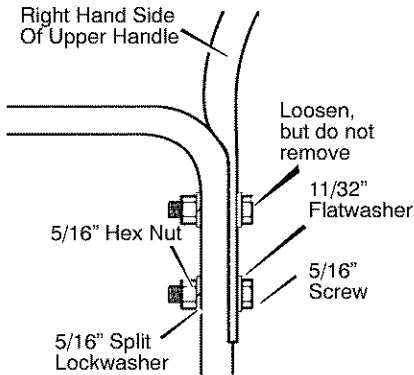
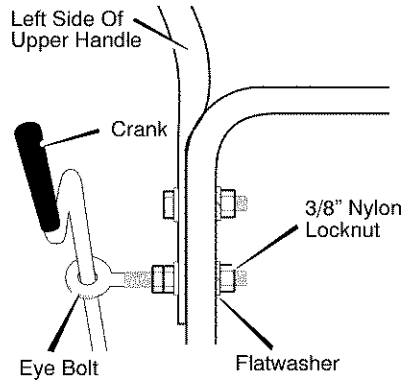

Figure 3
Figure 5
3. Loosen, but do not remove, the screws, flatwashers, lockwashers, and hex nuts in the upper holes of the lower handle. See Figure 3.
4. Remove the fasteners and the eye bolt from the lower holes of the lower handle See Figure 3 and Figure 5.